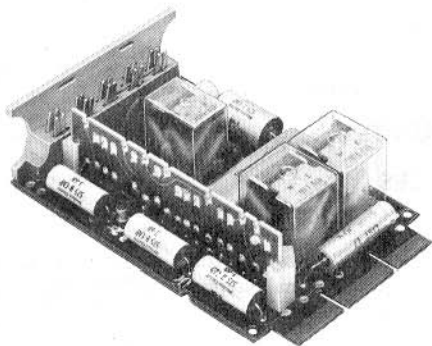

Fig. 1—Typical 4-Inch Key Telephone Unit
1.05 All circuit components on these KTUs are mounted on a plug-in printed wiring board, one end of which is equipped with contacts. A 4-inch board may have 18-, 20-, or 40-contacts; an 8-inch board will have 80 contacts (requiring two vertical 40-pin connectors). The circuit boards plug into mating connectors in key service units (KSUs), panels, or apparatus mountings. Wiring from the connectors will be dedicated or nondedicated leads. Dedicated leads are those that normally appear on the same contacts of all KTUs, such as supply voltages and grounds, and are normally factory-wired. Nondedicated leads are those whose designation and function vary and are made available for installer connections. Fig. 1 and 2 show typical 4- and 8-inch KTUs.